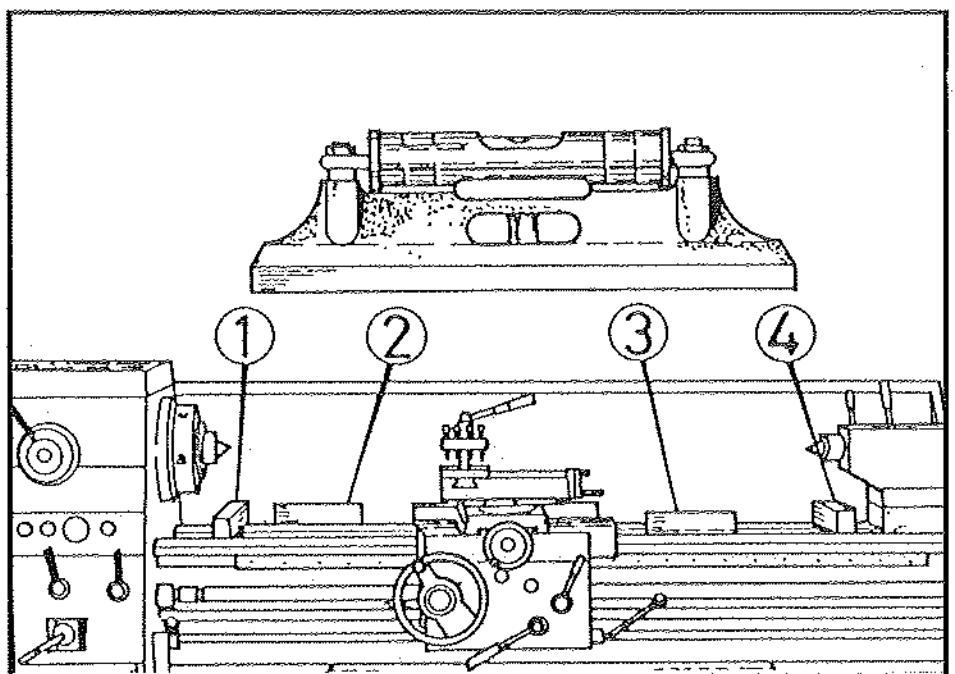

Fig. 2
FREE-STANDING: Position lathe on foundation and adjust each of the eight mounting feet to take equal share of the load. Then using a machinists precision level on the bedways (as in Fig 2) adjust the feet to level up machine. Periodically at least every six (6) months check bed level to ensure continued lathe accuracy.
FIXED-INSTALLATION: Position lathe over eight bolts (5/8 in. or 16mm. diam.) set into the foundation to correspond with holes in the mounting feet; dimensions are shown on foundation Plan. Accurately level the machine, as in Fig. 2 then tighten hold-down bolts. Re-check bed level.